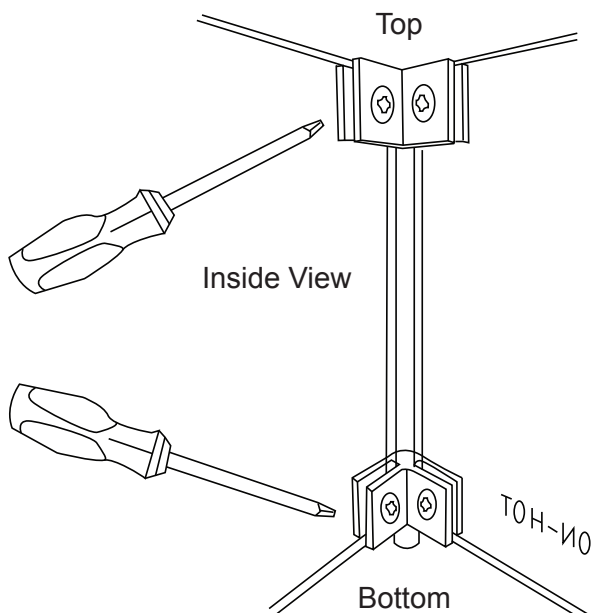
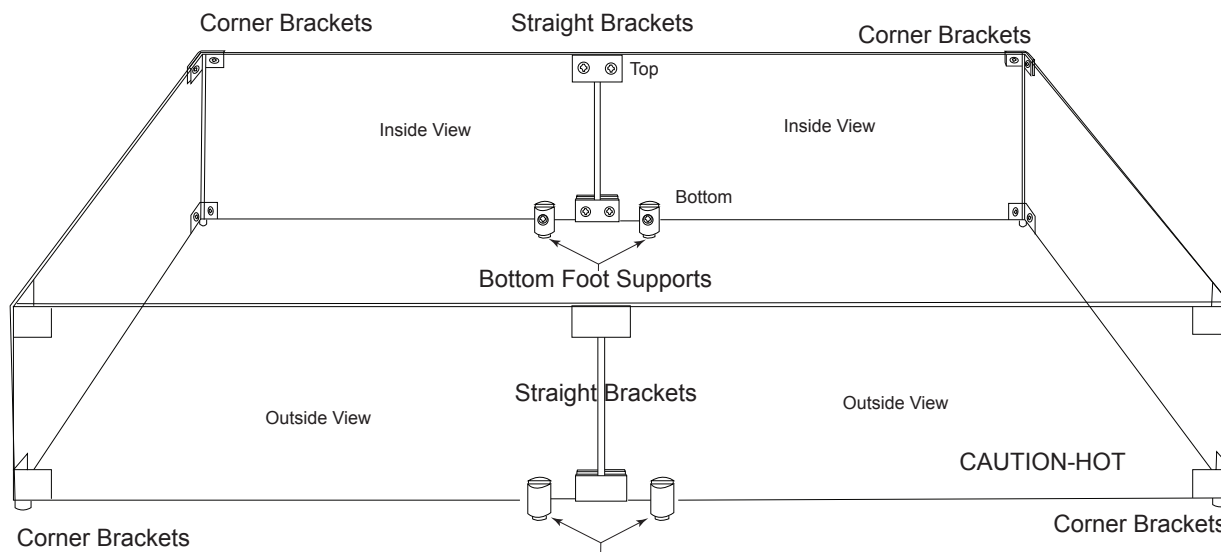

Fig. 4 Securing the corner brackets with a Phillips screwdriver.
Fig. 5 Securing all brackets with a Phillips screwdriver.
NOTE: This section covers both square and rectangular windshields. Review the assembly for a rectangular windshield then go directly to STEP 3, Fig. 4. to assemble a square windshield. Ensure the “CAUTION-HOT” sign is showing on at least one glass panel, facing outward. Use Fig. 5 for reference.
STEP 3: Connect end (short) glass panels using the corner brackets. Ensure the corner connector (with foot) is located at the bottom and the other corner connector (without foot) is connected at the top. See Fig. 4.
STEP 4: Using one pair of connectors at a time, connect a single glass panel at either end using corner connectors to complete the assembly of the rectangle windshield. See Fig. 5. The short panels are the ends and the long panels are the sides. Ensure the bottom connectors (with foot) are located on the bottom.